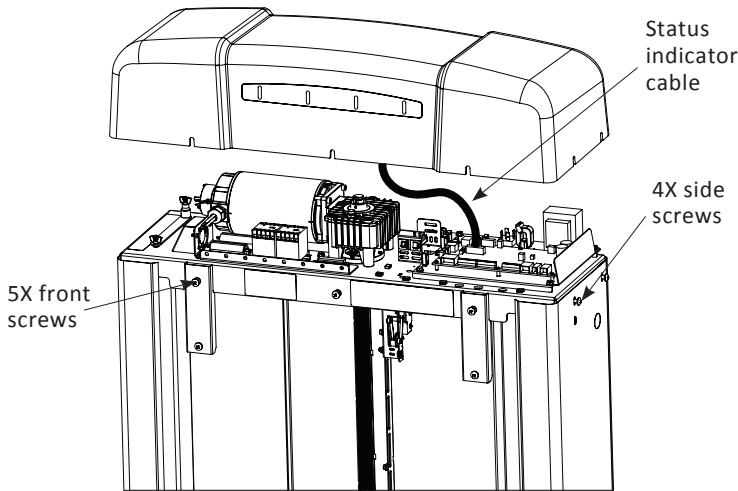

Figure 4-1
2. Remove the top cap by loosening the four (4) side screws and lifting the top cap partially, then disconnect the cable for status indicator lights from the control board. *See Figure 4-1.*